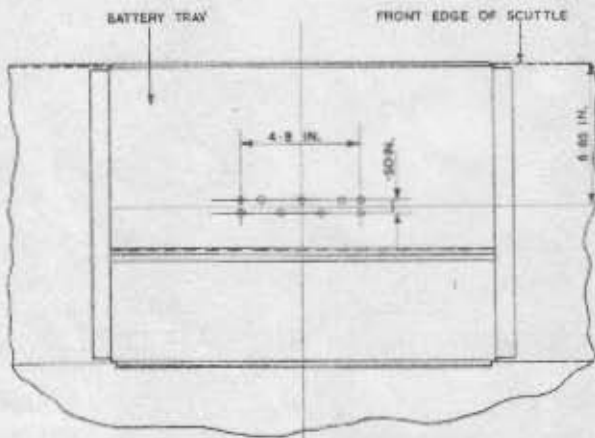

Fig.18. Modification to Battery Tray.
4. Referring to Fig.18, mark off the location of the nine heater mounting bracket rivet holes in the battery tray, drill the holes $\frac{1}{8}$ in. diameter, then draw-sink the holes at 90° with a No. 4 drill; rivet the mounting bracket to the underside of the battery tray.